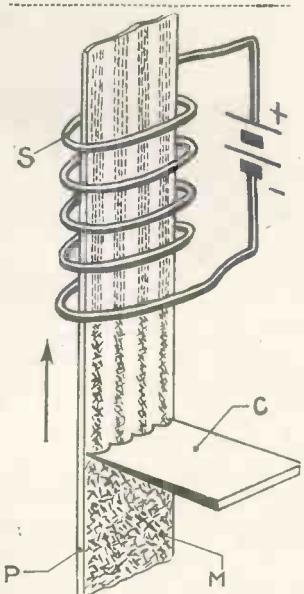

Fig. 8.—Making the grooves in the Ferrocort layer and influencing the arrangement of particles by a magnetic field
*The Expert:* To a certain small extent, of course; but they are very much reduced by another means. Firstly, the magnetic layer is subdivided once more by intermediate grooves (see Fig. 7 and 7a). Moreover, the iron particles, which you may imagine to be little needles, are exposed to the influence of a magnetic field (see Fig. 8).